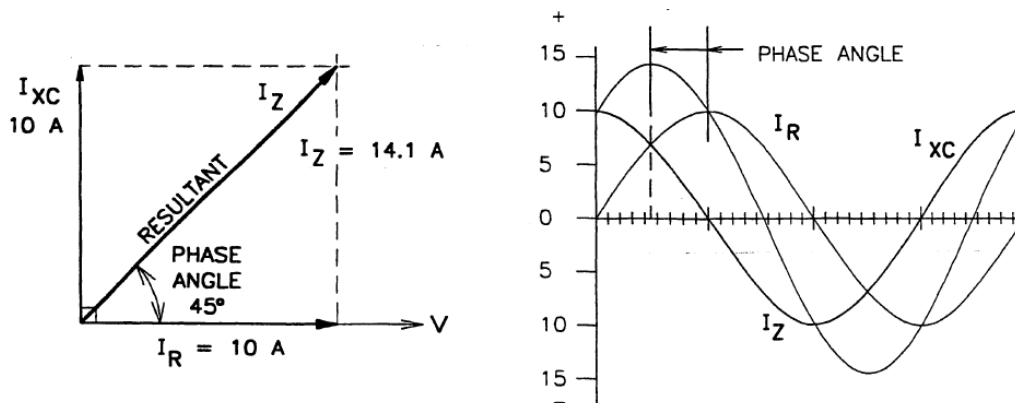

Figure 6 – Phasor diagram of RC in parallel
36. Using the voltage phasor as a reference, the current in the resistor and the current in the capacitor would be 90° out of phase as shown in Figure 6.